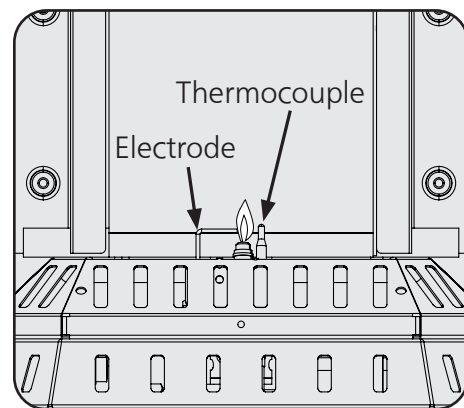

Figure 7
- Visually inspect the pilot flame and burner periodically during use. The pilot flame should be blue in color (not yellow) and will extend to the thermocouple. The flame will surround the thermocouple just below the tip. See Figure 7.